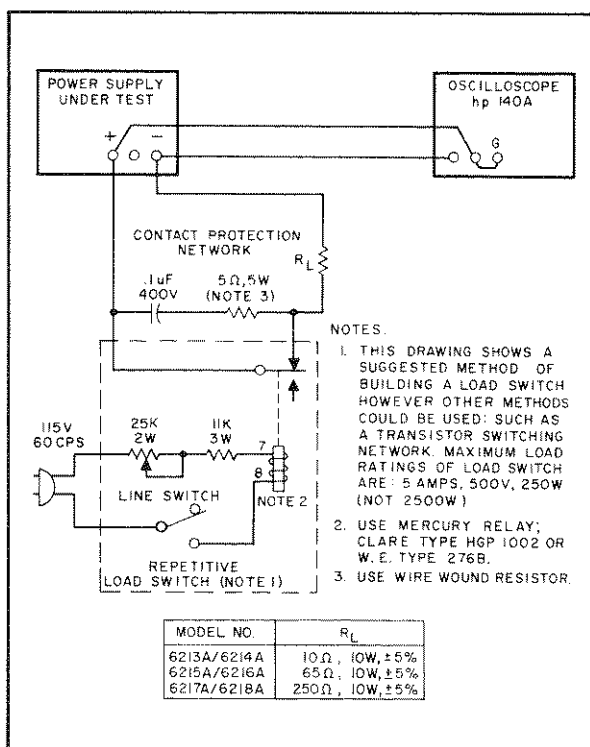

Figure 5-9. Transient Recovery Time, Test Setup
5-43 A mercury-wetted relay, as connected in the load switching circuit of Figure 5-9 should be used for loading and unloading the supply. When this load switch is connected to a 60 Hz AC input, the mercury-wetted relay will open and close 60 times per second. Adjustment of the 25K control permits adjustment of the duty cycle of the load current switching and reduction in jitter of the oscilloscope display.
5-44 The maximum load ratings listed in Figure 5-9 must be observed in order to preserve the mercury-wetted relay contacts. Switching of larger load currents can be accomplished with mercury pool relays; with this technique fast rise times can still be obtained, but the large inertia of mercury pool relays limits the maximum repetition rate of load switching and makes the clear display of the transient recovery characteristic on an oscilloscope more difficult.
- a. Connect test setup shown in Figure 5-9.